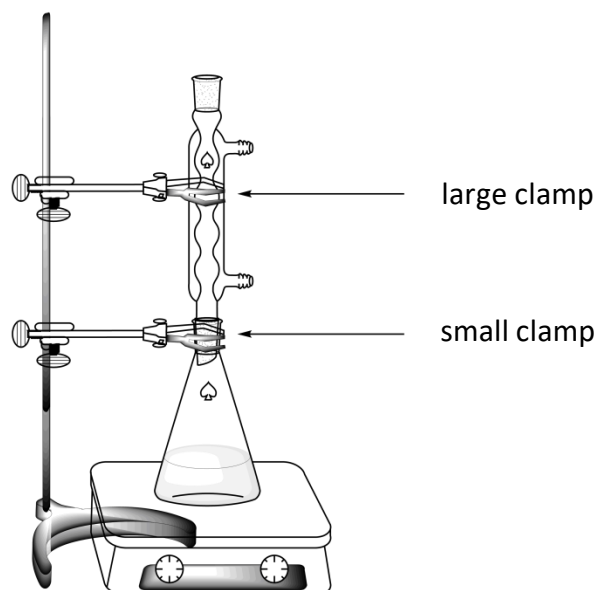

Figure 1. Setup for heating the reaction mixture under reflux
4. **Attach** the reflux condenser by loosening the large clamp and adjusting the ground joints (see Figure 1). **Raise** your HELP card. A lab assistant will come to turn on the water and set the hotplate.
2. **Perform** the recrystallization of the crude product contained in the 50 mL ground-joint Erlenmeyer flask with the appropriate amount of this water/ethanol mixture, using the same setup as for the reflux heating (see Figure 1). **Raise** your HELP card. A lab assistant will come to turn on the water and set the hotplate. **Add** the solvent by the top of the condenser.